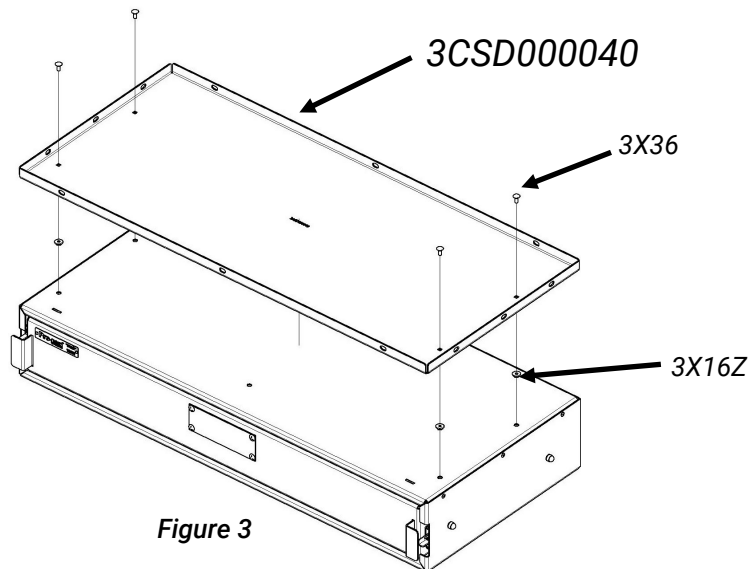

Figure 3
- C. Open the drawer to gain access and install bolts (4) 3X36 (1/4-20 x 5/8" carriage bolt) from the top and (4) 3X16Z (1/4-20 whiz nut) from the inside of drawer. See Figure 3